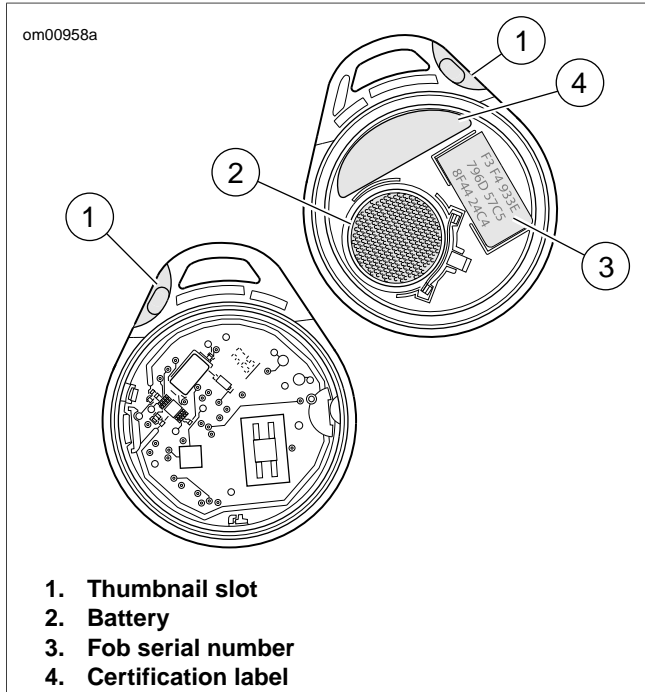

Figure 10. Fob Battery
- *See Figure 10. The serial number of the fob is also found on the inside of the fob.*
1. See Figure 10. To open the fob, turn a thin blade in the slot (1).
2. Remove the battery (2) and discard in accordance with local regulations.